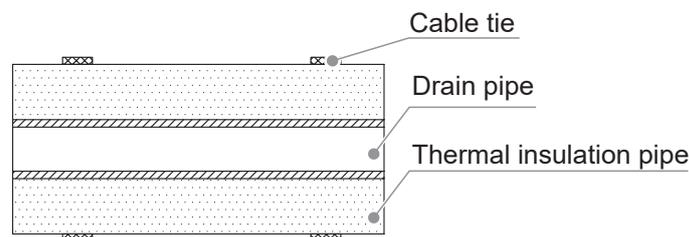

Figure 18.
1. The water pump connecting pipe and drain pipe (in the indoor part) must be wrapped with heat insulation pipe evenly and bound with cable ties to prevent air from entering and producing condensate. Refer to Figure 18.